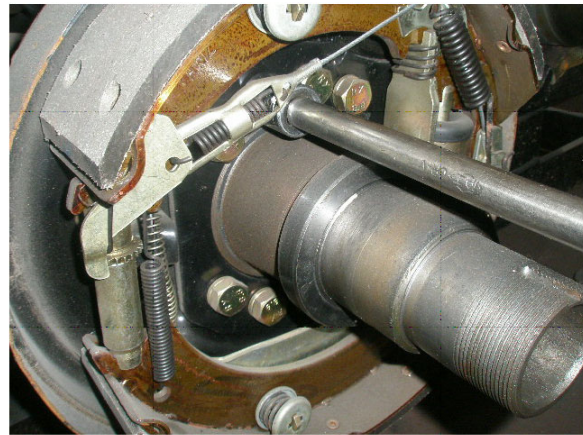

Fig 5-12
- (6) Remove the E-shaped retainer ring that fastens the brake cable to the backing plate then remove the backing plate hardware and then remove the backing plate from the axle. (Fig 5-12).